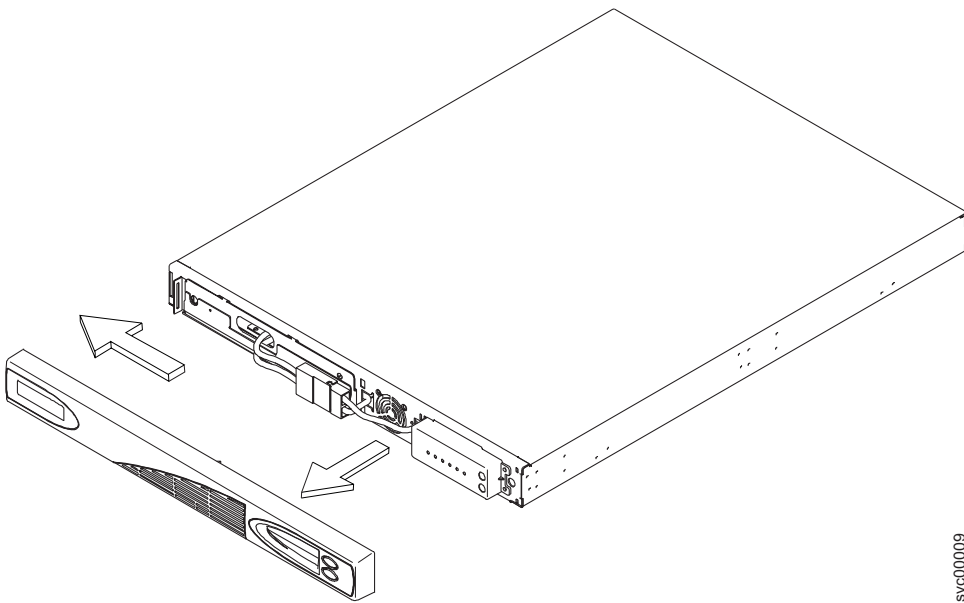

Figure 309. Removing the 2145 UPS-1U front panel
5. Remove the 2145 UPS-1U front panel, as shown in Figure 309.